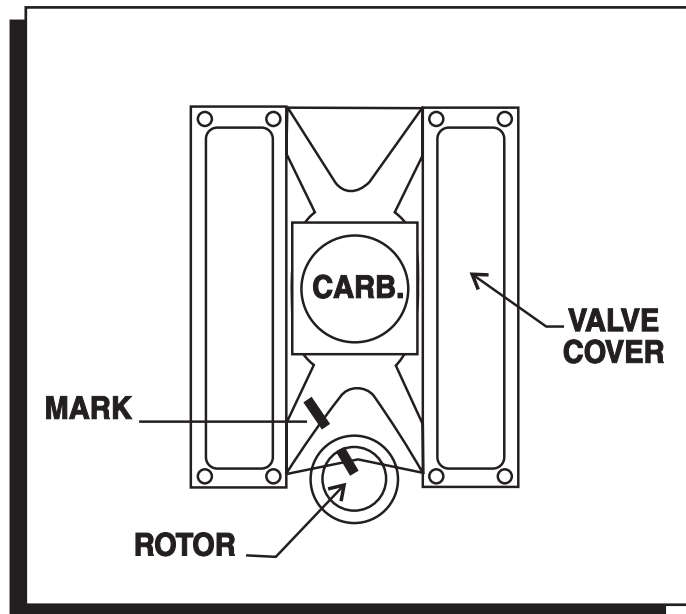

Figure 11 Marking the Rotor Location.
2. With the cap off, crank the engine until the rotor is aimed at a fixed point on the engine. Note this position by making a mark (Figure 11).